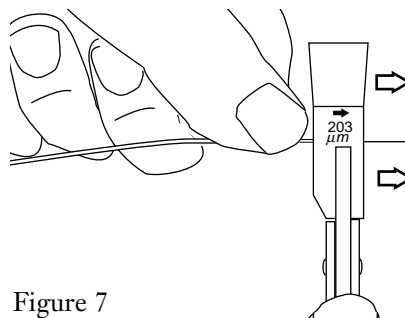

Figure 7
**4.9** Using the No-Nik stripping tool, remove the tight-buffered coating until the desired length is obtained (Figure 7).